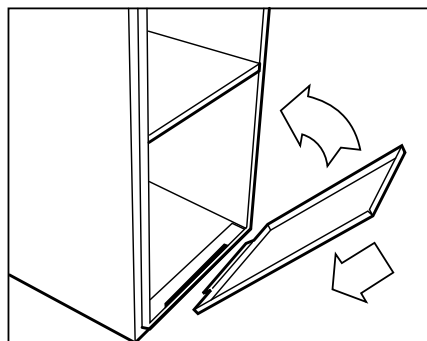
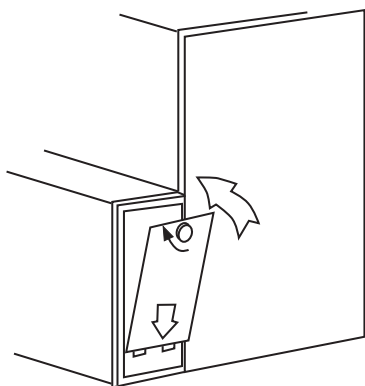

Fig. 29 - Replace Blower Access Panel
Fig. 31 - Replace Side Filter Cabinet Door
8. Replace blower access panel and main furnace door (Fig. 29 and 30.) or filter cabinet door. (Fig. 31 and 32.)